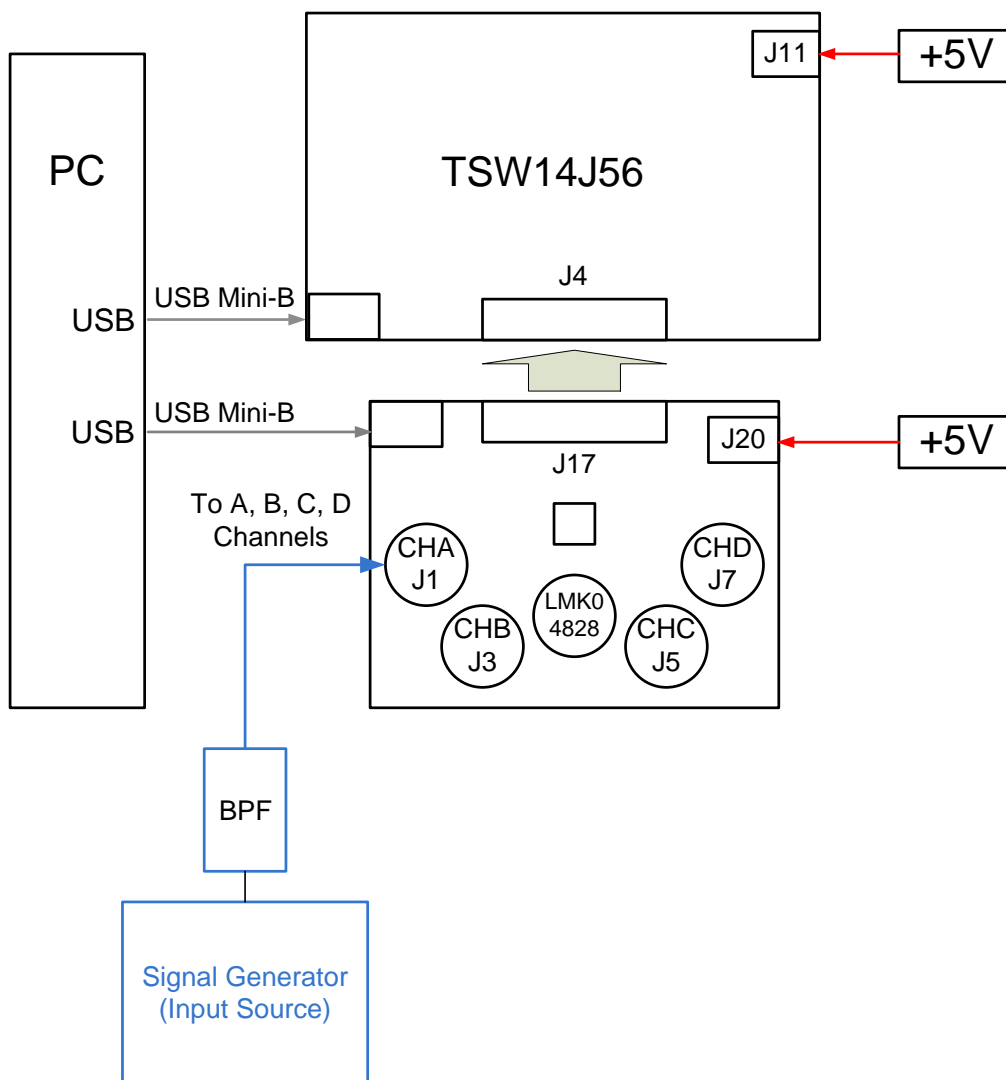
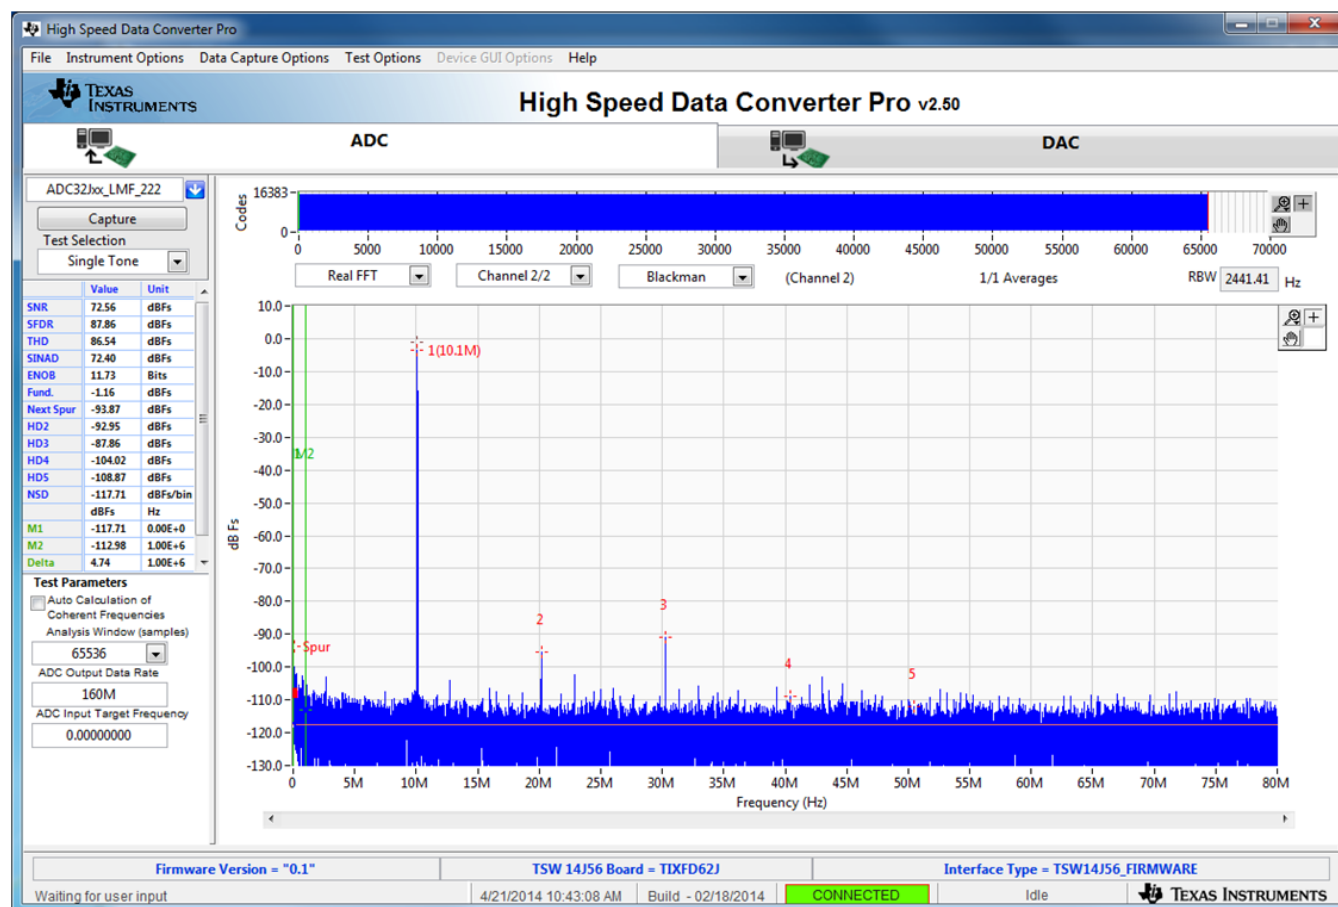

Figure 18. ADC32Jxx/ADC34Jxx and TSW14J56 Test Setup Block Diagram
Figure 20. ADC32Jxx Operating in 14-Bit Mode at 160 MSPS With a 10-MHz Input Signal
The test set-up for evaluation of the ADC32J/34Jxx EVM with the TSW14J56 or TSW14J50 Capture Card is shown in Figure 18. As seen in this figure, the evaluation setup involves a clock from a high quality on board clock chip LMK04828 and a sine wave for the analog input from a high-quality signal generator. High order, narrow bandpass filters are usually required to remove phase noise and harmonic content from the input sine waves. Since the on board clock and input sinewave are not coherent then the resulting FFT will need to have a windowing function such as Blackman-Harris/Hamming/Hanning applied to the data.
5. Select the number of sample points (and resulting number of FFT bins) to be used. The example shown in Figure 20 has 65536 samples.
6. Enter the ADC32J/34Jxx sampling rate. The example shown in Figure 18 has the sample rate set at 160 MSPS.
7. Enter the input frequency desired. The example shown in Figure 18 and Figure 20 has the filtered input frequency set at 10 MHz and around 10 dBm. Adjust to achieve –1 dBFs on the HSDC Pro FFT plot.
10. Observe an FFT result similar to that shown in Figure 18.